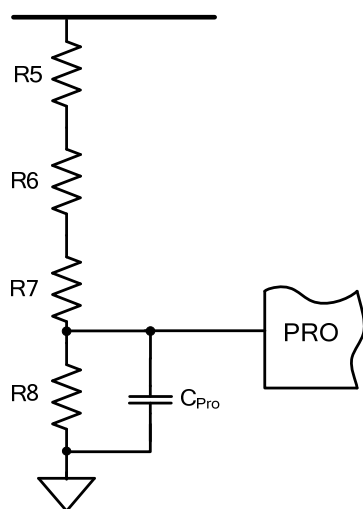

Figure 9: Input Over-Voltage Protection Set-Up
A typical input OVP circuitry of the HF920 is shown in Figure 9. The input OVP point can be calculated with Equation (16):